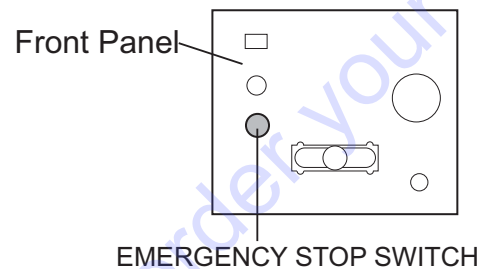

Figure 7. Emergency Stop Switch
1. To stop the rebar bender immediately in case anything goes wrong in the bending process, press the Emergency Stop Button (Figure 7). The roller on the rebar bender will immediately stop and return to the start position.